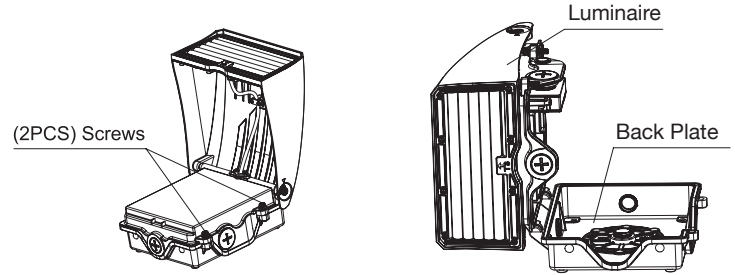

Fig. 2
2. Use a Philips head screwdriver to open the driver compartment (Fig. 2).